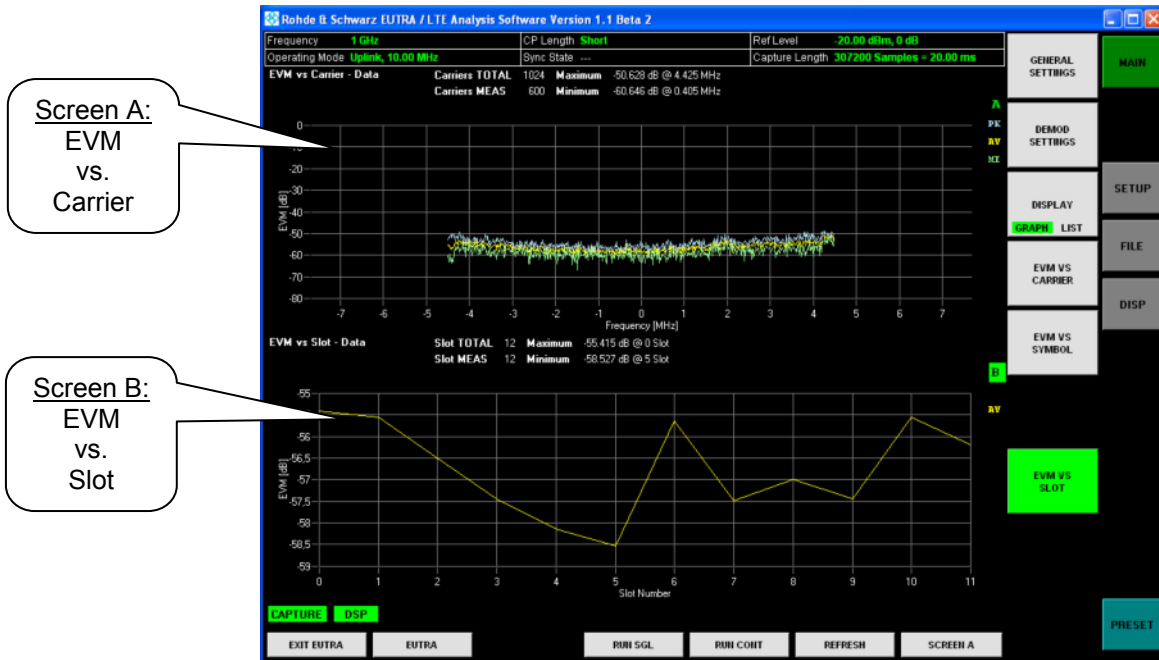

Figure 5-12 Analyzing EUTRA/LTE UL signals – EVM vs. Carrier resp. vs. Slot
4. EVM vs. Slot (Figure 5-12: Screen B)